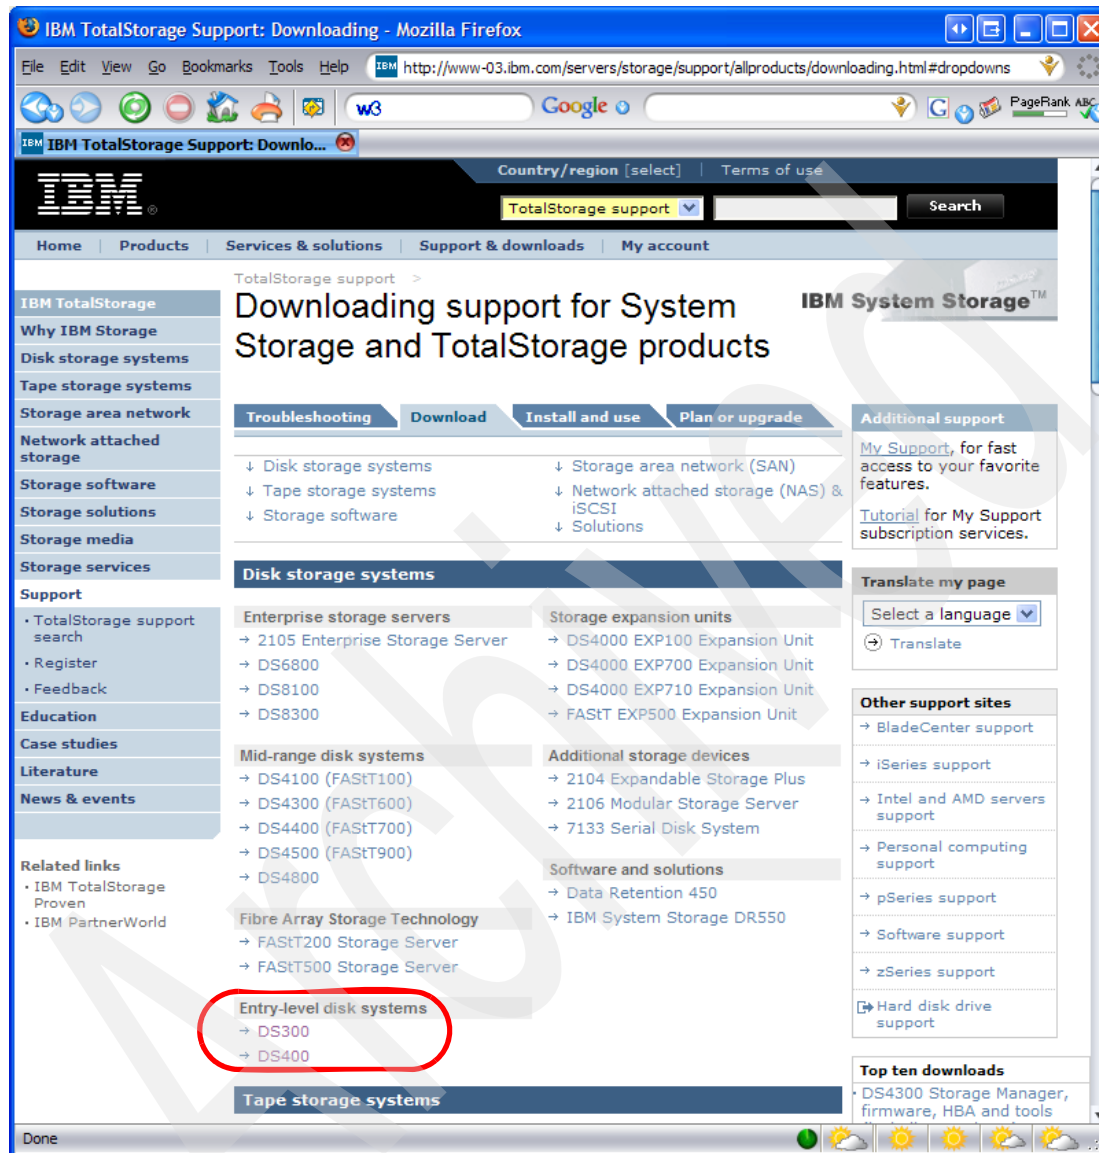

Figure C-3 Select DS300 or DS400 download support
- The page refreshes and allows the selection of the specific storage product. Select DS300 or DS400 from the **Entry-level disk systems** heading as shown in Figure C-3 on page 627.